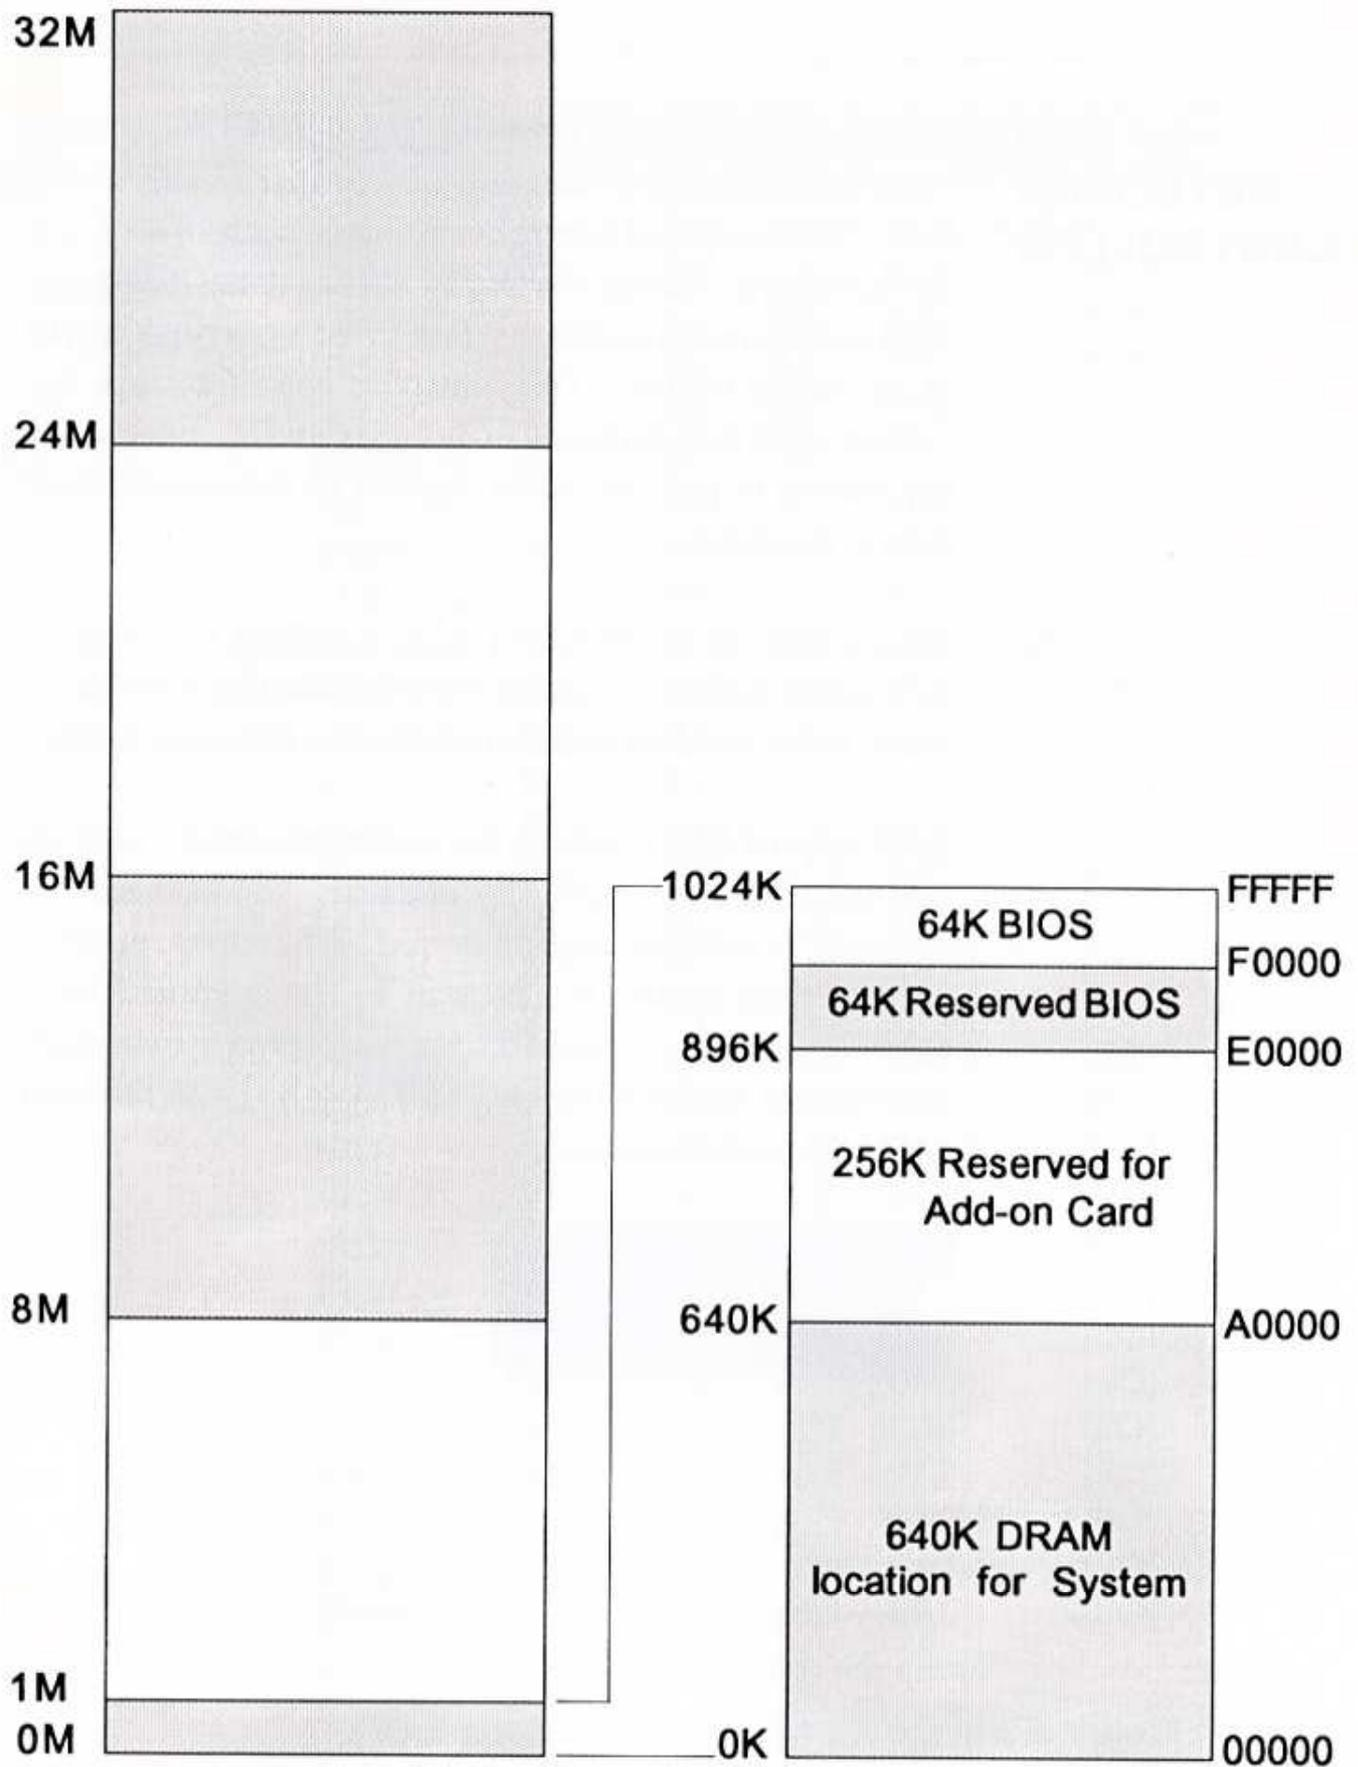

Fig. 2-1 System Memory Map
**See Fig.2-1 (Page 18) for the System Memory Map.**